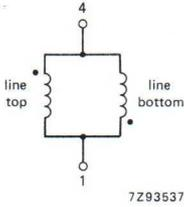

Fig. 2a Line coils.
**Line deflection coils**, parallel connected (Fig. 2a), terminals 1 and 4